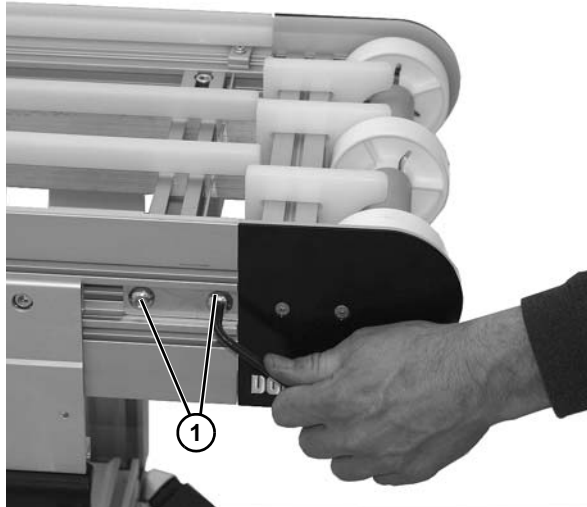

Figure 80
2. Loosen the two socket head screws (**Figure 80, item 1**). Repeat on opposite side.